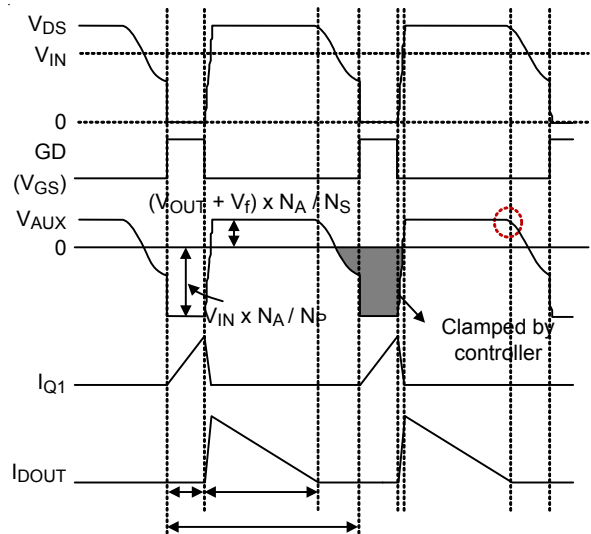

Figure 3. Key Waveforms of a Flyback Converter
The RT7302 needs no shunt regulator and opto-coupler at the secondary side to achieve the output current regulation. Figure 3 shows several key waveforms of a conventional flyback converter in Quasi-Resonant (QR) mode, in which VAUX is the voltage on the auxiliary winding of the transformer.